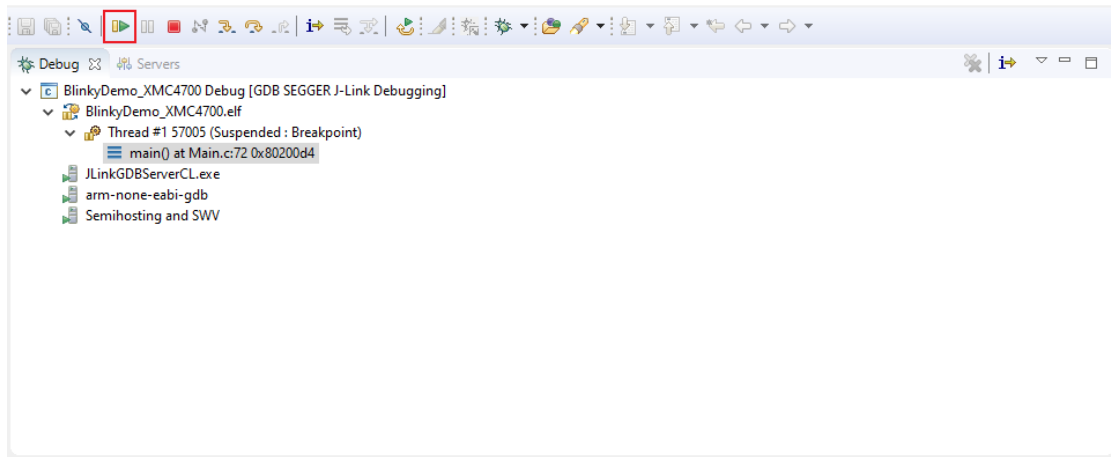

Figure 17: DAVE IDE Debug view
8. To start the execution of the application press **F8** or click on the *Resume* icon as seen in Figure 17.